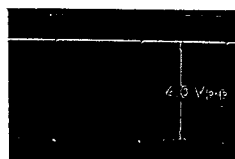

Fig. 2-3
- (1) Connect an oscilloscope to TP-3 on SG BOARD BASE.
- (2) Adjust R62 (VD LEVEL) so that a voltage of 4 Vp-p \pm 0.2 V is obtained as shown in Fig. 2-3.